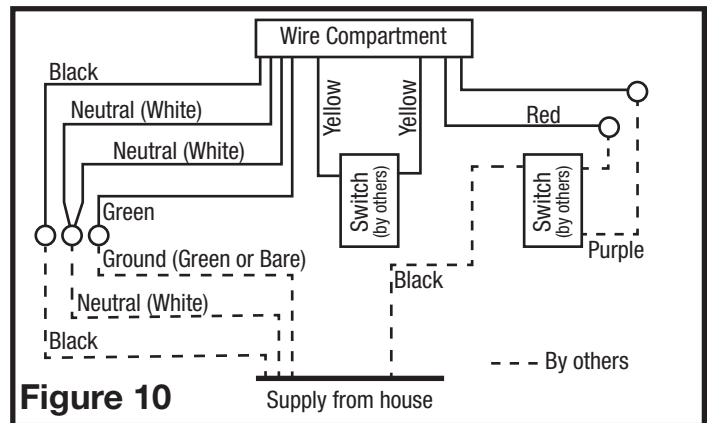

**Figure 9**
3. Secure the electrical wires to the housing with an approved electrical connector. For two speed fans wired for continuous ventilation, connect the White wires of the fan to the White (Neutral) wire from the power source. Connect the ground wire from the house to the green wire from the fan housing. Connect the Black wire of the fan to the Black wire (Hot) from the power source. The fan will operate on low speed continuously and boost to high speed when motion is detected. Using a properly grounded standard duplex toggle switch (such as Leviton 5224-2W, not included) connect the black wire from the supply to one side of the top and bottom switch. Connect the red wire (light) from the fan housing to the other side of the top switch and connect the purple wire (night light) from the fan housing to the other side of the bottom switch. A manual override switch (not included) can be used to provide a manual fan Off function (Figure 9).